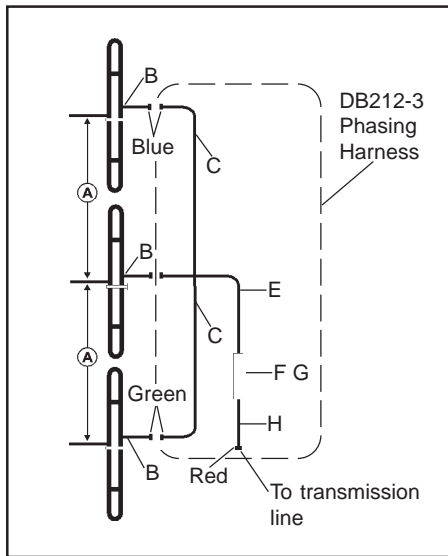

Figure 8 - DB212-3
**Installing the DB212-3 (refer to Figure 8):**
5. Connect the phasing harness (see Figure 8) to the three dipoles; be sure to match the color codes. Make all connections snug but do not apply heavy force with pliers. This should leave the phasing harness transformer (color coded red) open for connection to the station transmission line.